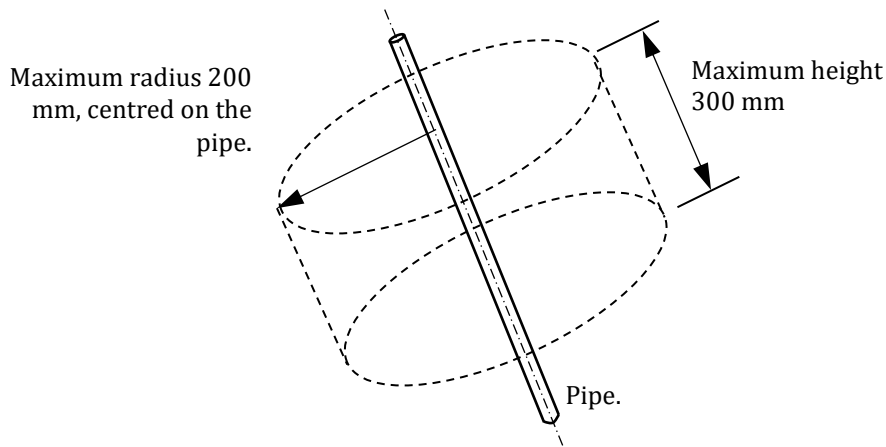

Figure 2. Space envelope for the lifting device.
2.1. The 'device' can be of any type, but it must be self-contained and at all times during the competition fit within a cylindrical envelope of 200 mm radius and 300 mm height, as shown in Figure 2 below. On the day of the competition this will be checked using a gauge.